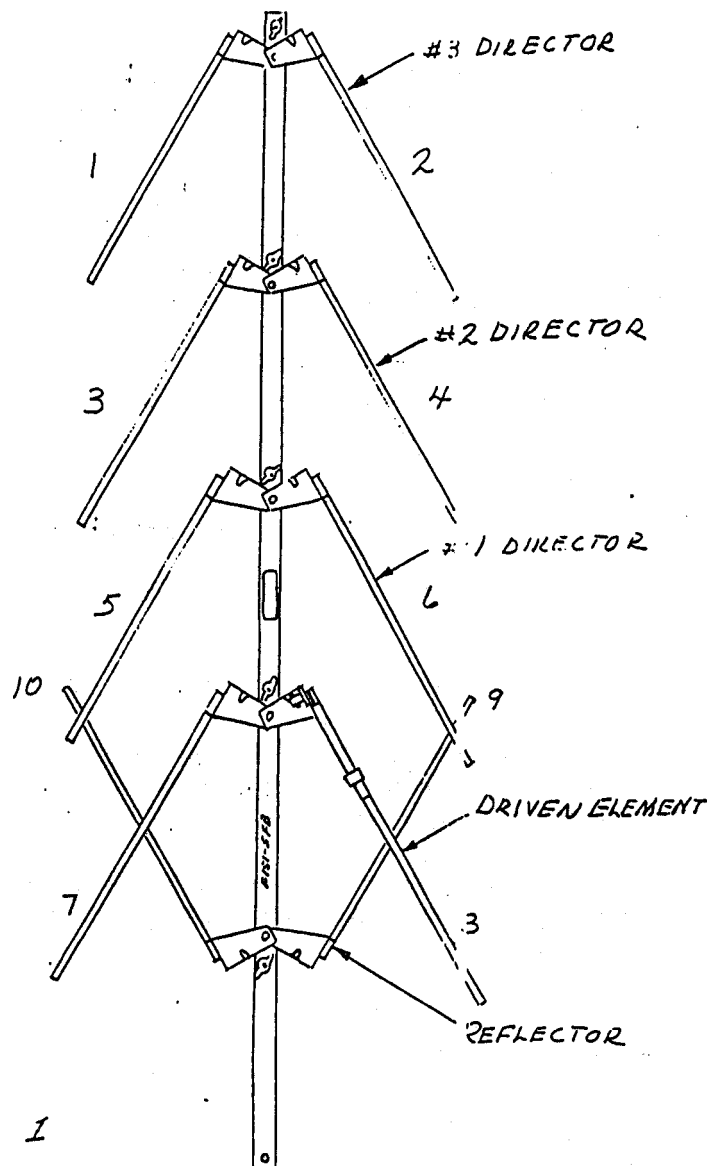

FIGURE 1
3. Swing the #3 director element halves (numbered 1 and 2 in Figure 1) outward in the order #1 and #2, so that each element half is perpendicular to the boom. Tighten the wing nut to hold the element halves in the unfolded position.
4. Repeat step 3 for the #2 director element halves (numbered 3 and 4 in Figure 1), then for the #1 director element halves (numbered 5 and 6), then for the driven element halves (numbered 7 and 8), and finally for the reflector element halves (numbered 9 and 10). Note the reversed order of the reflector element halves compared to those of the driven and directors in Figure 1.